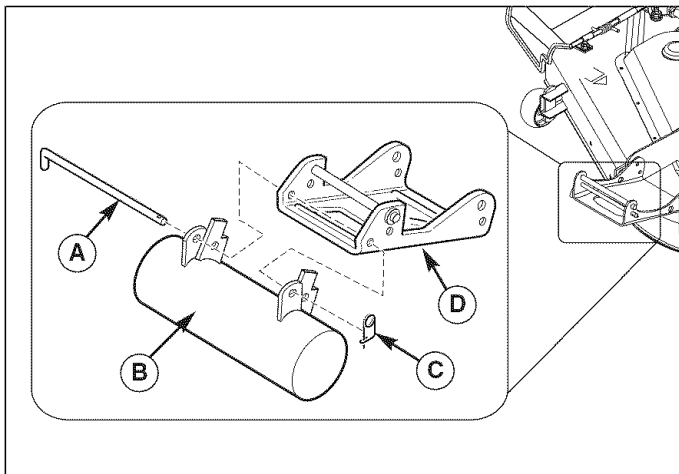

Figure 1. Install Mounting Plate
1. Install front counterweight (B, Figure 1) with pin (A) through mower hitch bracket. Bottom tabs of weight should contact bottom of mower hitch so weight is held in position.